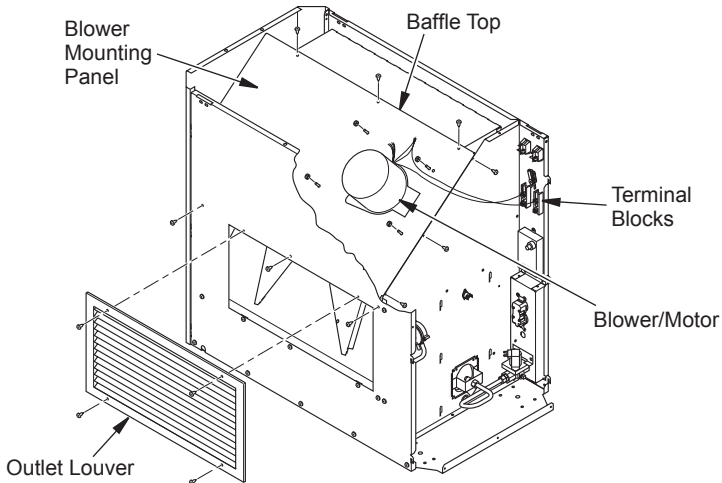

Figure 11 - Removing Blower/Motor Assembly
4. Carefully remove 9 screws securing blower mounting panel (see Figure 11, page 15). Slide baffle top up and carefully lift entire assembly out of heater. Assembly is heavy. Removal may require assistance.
2. Remove 4 screws securing outlet louver to front panel (see Figure 11, page 15).